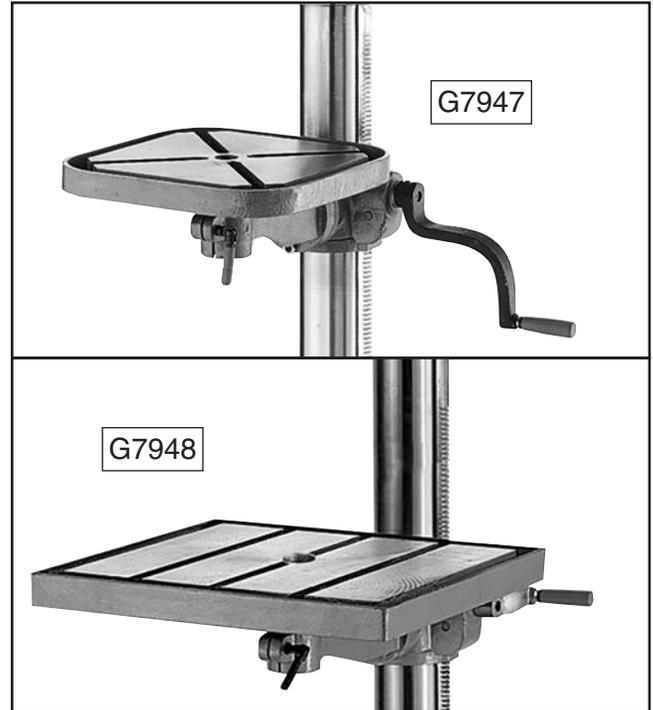

Figure 25. Tables installed.
24. Tighten small locking lever to secure table in table support assembly. The table should now be installed as shown in **Figure 25**.